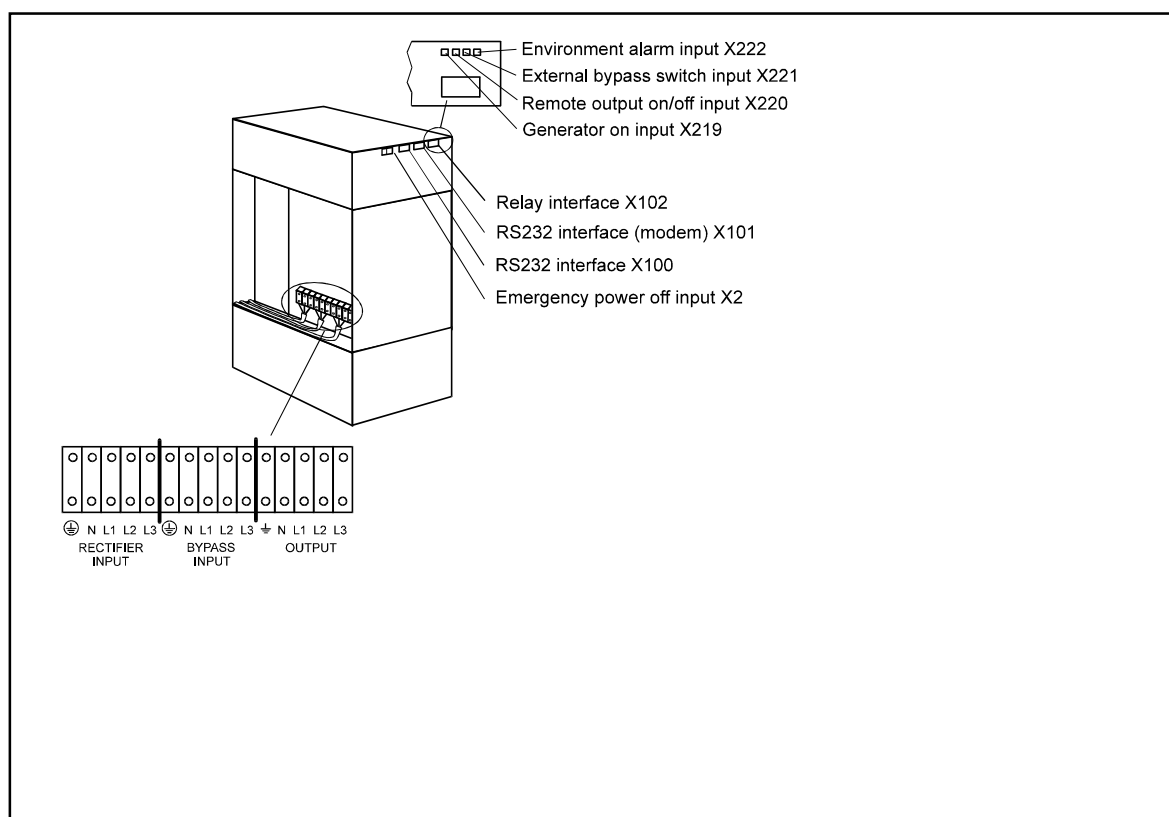

Fig. 2. UPS connection locations
8. Connect input cables and output cables to the UPS (Fig 2).